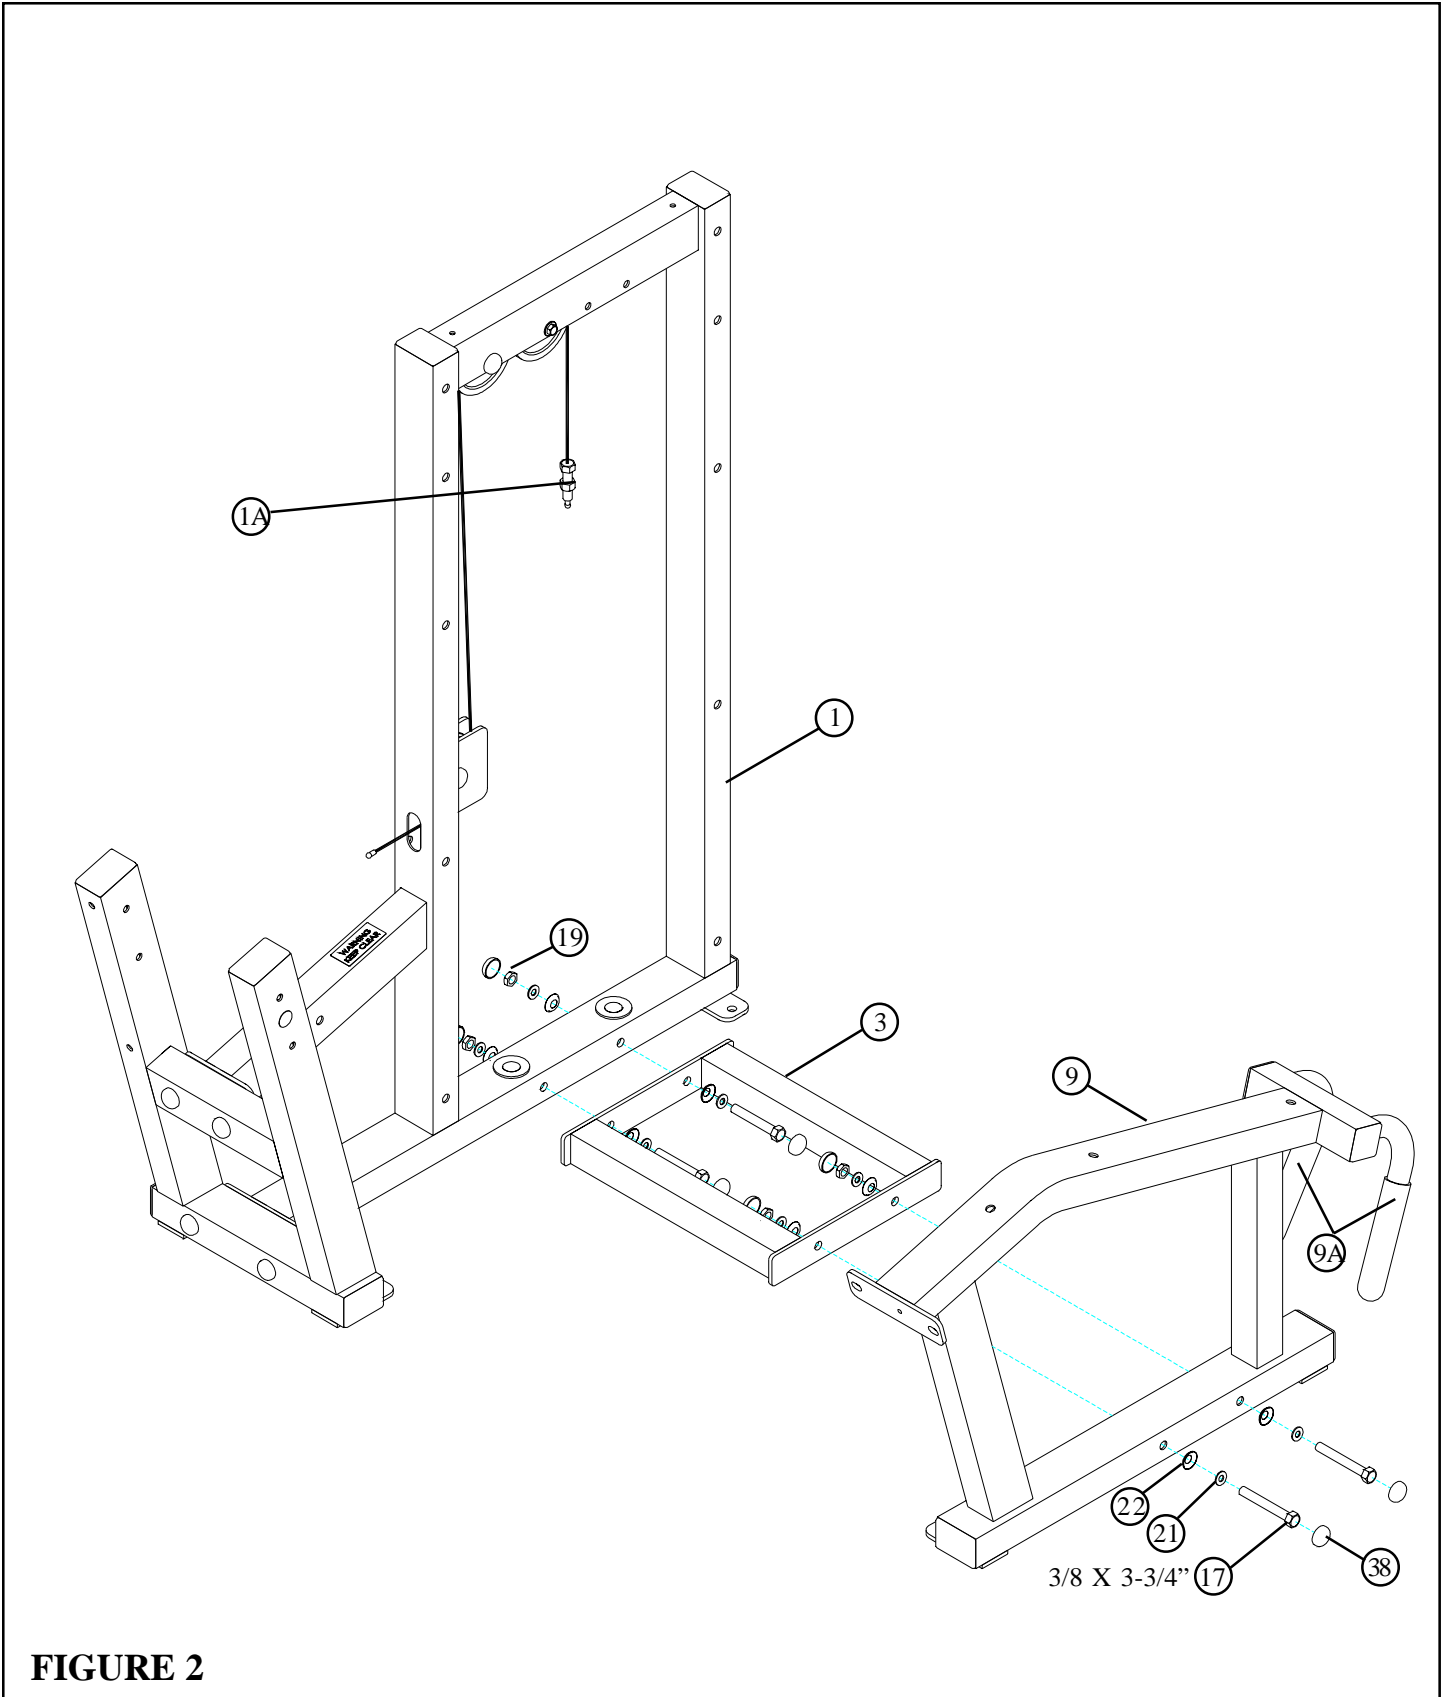

FIGURE 2
- **LOOSELY** assemble the FRONT BRACE (3) to the SEAT FRAME (9) and the TOWER (1) using eight RH CAPS (38), four 3/8 X 3-3/4" BOLTS (17), eight 3/8" SAE WASHERS (21), eight 3/8" RH WASHERS (22), and four 3/8" LOW HEIGHT LOCK NUTS (19) as shown in FIGURE 2.